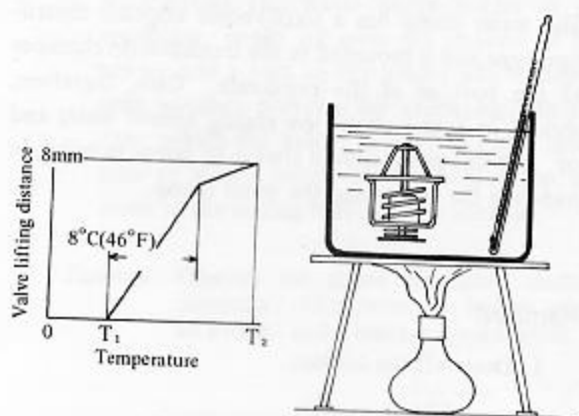

Fig. 7-9 Testing thermostat
2. The function of the valve is tested. As shown in Fig. 7-9, both the thermostat and the thermometer are dipped into water within the vessel and water is heated by stirring to obtain a uniform temperature. Then, check the thermostat if it is normally operating at a prescribed temperature.